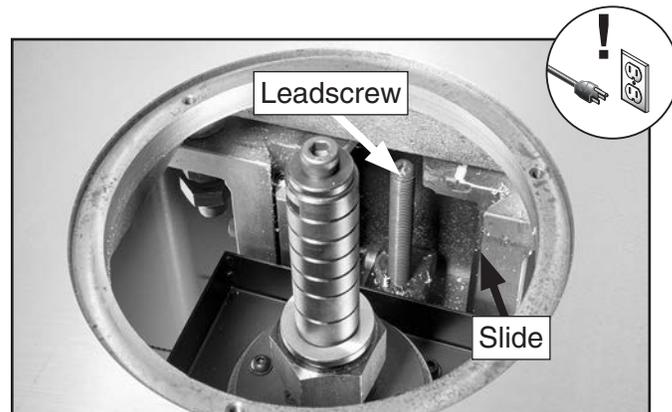

Figure 62. Spindle slide and leadscrew location.
3. Use rag and mineral spirits to clean away grease and built up grime from surfaces of both slides and threads of leadscrew (see **Figure 62**).
4. Use rag and mineral spirits to clean away grease and built up grime from surfaces of both slides and threads of leadscrew (see **Figure 62**).